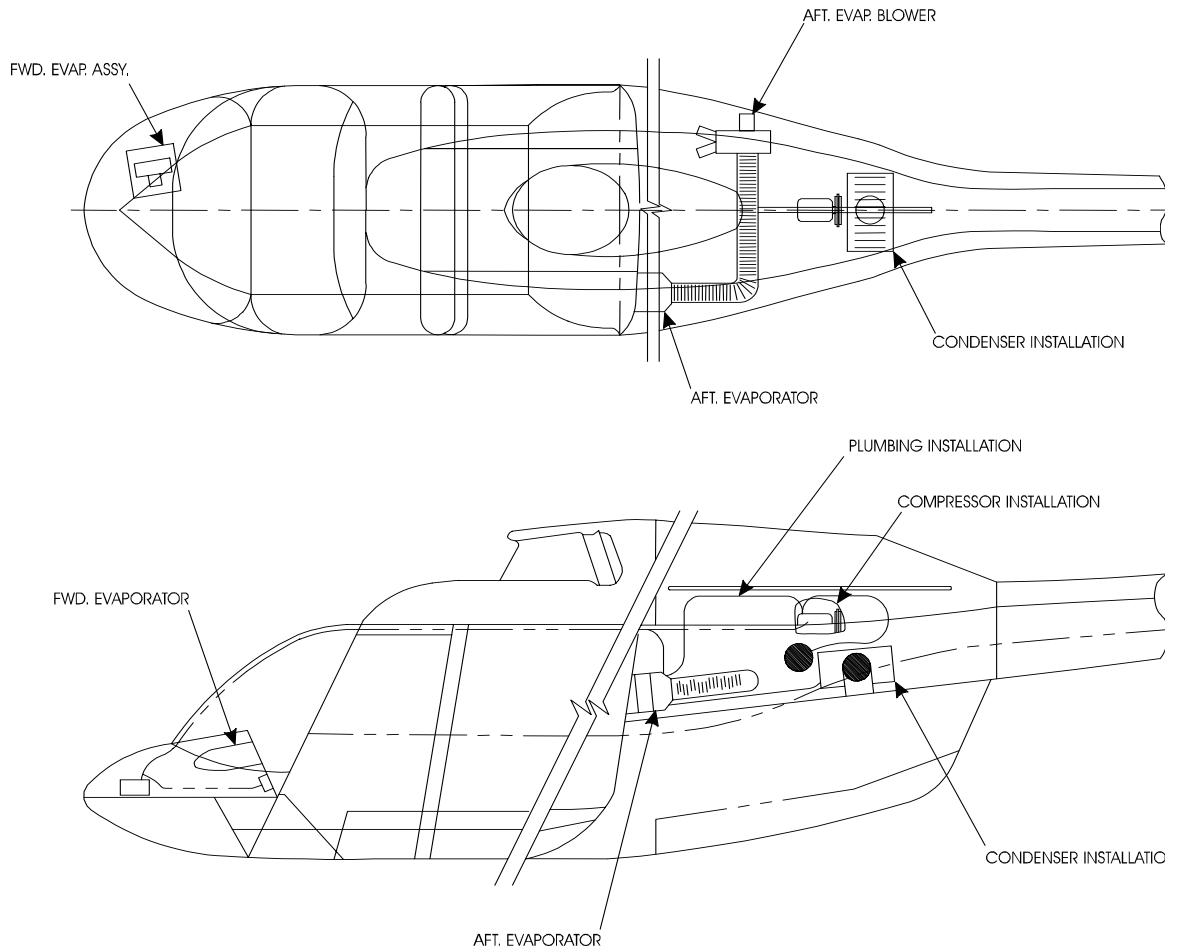

Figure 1
The air conditioning system for the TH-67 helicopter consists of a refrigerant R134a vapor cycle cooling system. This system allows the pilot to control cooling for a comfortable rotorcraft cabin. Figure 1 shows a general arrangement of the air conditioning system.
This section of the maintenance manual describes the electrical system and presents electrical troubleshooting and adjustment/test procedures. An Illustrated Parts List is included in Figure 1.
3. ELECTRICAL TROUBLESHOOTING PROCEDURES (REF. IPL Fig. 1)